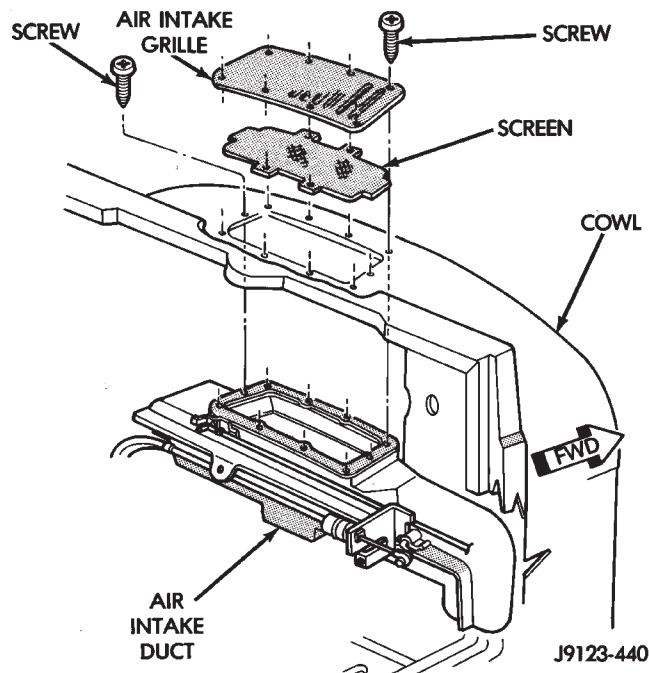

Fig. 16 Cowl Grille Removal/Installation
- (1) Remove the screws that attach the cowl air intake grille to the cowl and to the air intake duct (Fig. 16).
- (2) Remove the grille and screen from the cowl (Fig. 16).
- (1) Position the cowl screen and grille on the cowl.
- (2) Attach the grille and screen to the cowl and the air intake duct with the screws (Fig. 16).